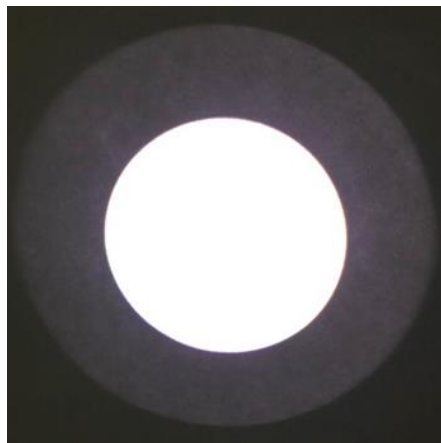

Figure 49: Uniform output of a properly aligned Xe lamp.
13. Move the lever so that it rotates about the cylindrical condenser lens assembly until the light on the backdrop becomes uniform and circular as seen in Figure 49.